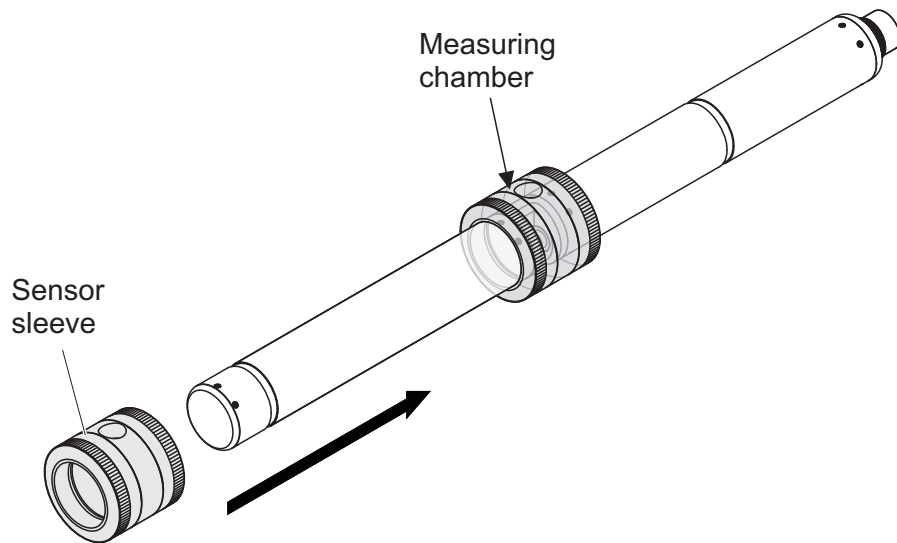

Fig. 4-3 Putting the sensor sleeve on the sensor
9. Put the sensor in a horizontal position on a firm and vibration-free surface. Turn the filling opening of the sensor sleeve upward (Fig. 4-3).